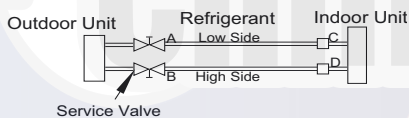

Fig. 14 — Service Valve
1. Completely tighten flare nuts A, B, C, D, connect manifold gage charge hose to a charge port of the low side service valve (see Fig. 14).